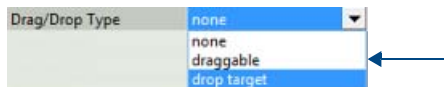

FIG. 226 TPDesign5 General Properties - Drag/Drop Type set to "drop target"
3. Set the button's *Drag/Drop Type* (General) property to **drop target** (FIG. 226):